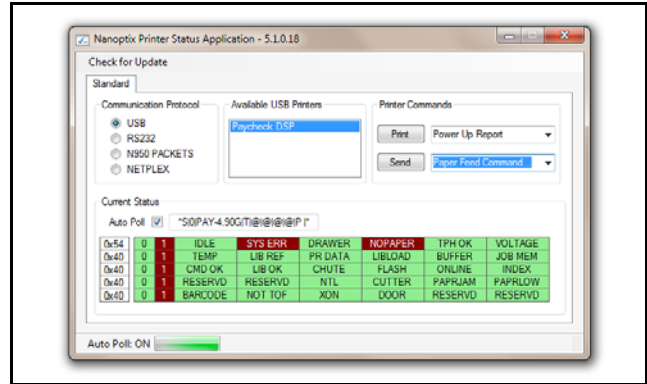

Figure 2: Nanoptix Printer Status Application
**Note:** The application will locate the connected Printer and display the Printer Type in the Available USB Printers Field (Figure 2).